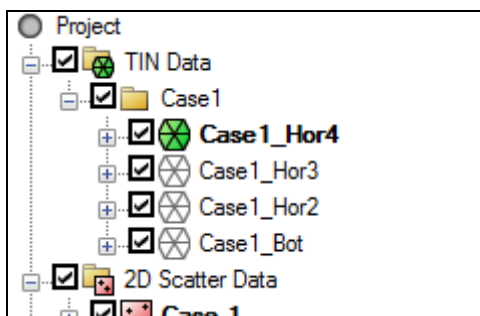

Figure 5 TINs organized into a folder
3. In the Project Explorer, drag and drop each of the four TINs into the “ Case1” folder (see Figure 5).